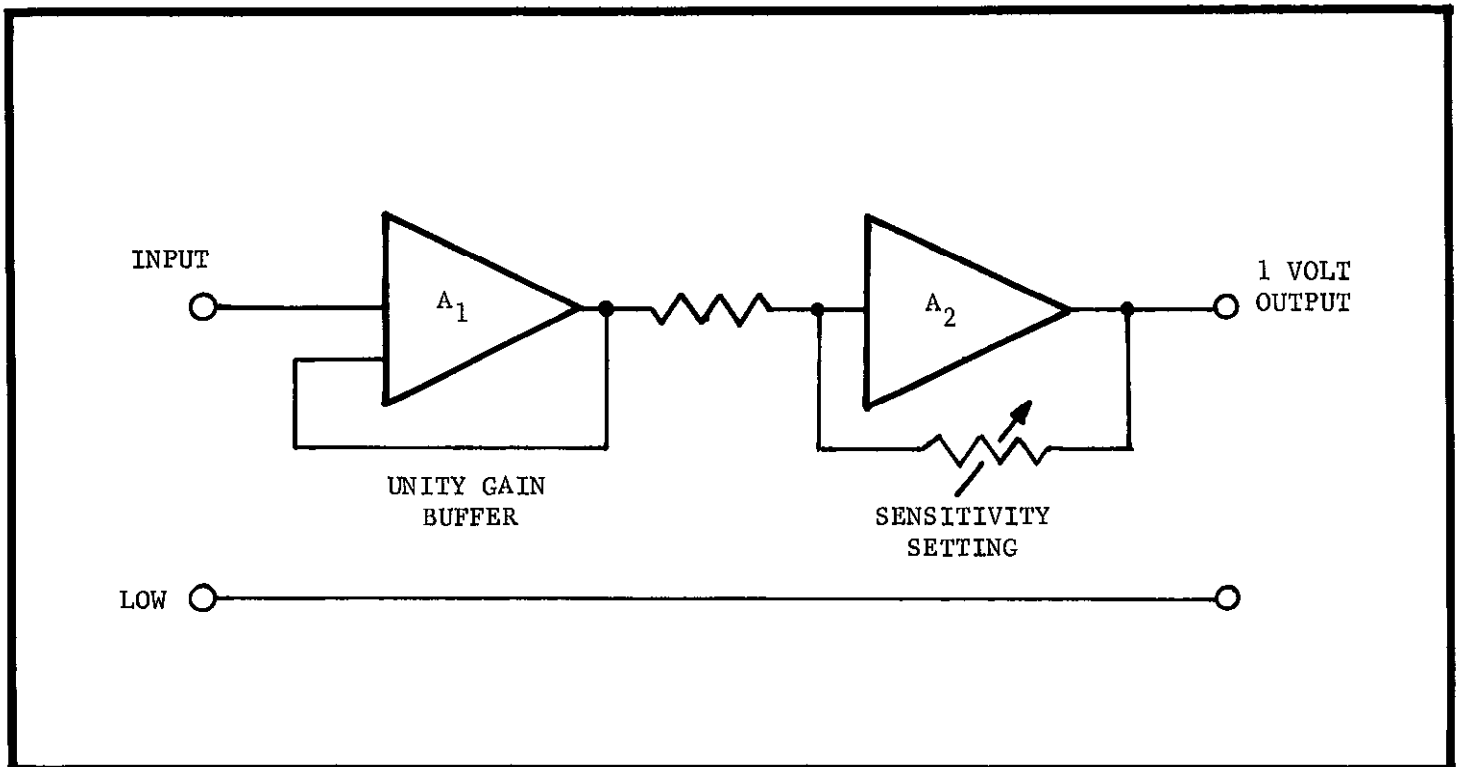

FIGURE 24. Simplified Diagram of Amplifier Section.
a. Input Amplifier. This amplifier  $A_1$  is shown in simplified form in Figure 24. (Refer to schematic 25764E). The input signal applied between HI and LO (J120) is amplified by the input MOS-FET amplifier composed of transistors Q101A and Q101B. Transistors Q102A and Q102B are used for over-voltage protection (base-emitter connected). Integrated circuit QA101 provides high gain (approx. 100,000) for the electrometer amplifier section. Potentiometer R123 is an internal zero adjustment used for calibration purposes. Potentiometer R119 is a front panel ZERO control with adjustment capability of approximately 3 mV. Transistors Q105 and Q106 are complementary output stages which provide a maximum of  $\pm 200$  volts at the "X1" terminal (J118). The electrometer amplifier is connected in a unity-gain configuration. Input resistance between HI and LO is greater than  $2 \times 10^{14}$  ohms in "VOLTS" function.
e. Voltage Sensitivity. This amplifier  $A_2$  is shown in Figure 24. (Refer to schematic 25776D). The second stage variable-gain amplifier is composed of a FET stage (Q301A, Q301B) and an integrated circuit QA301. Gain is determined by resistors RN301 (A to F) where: